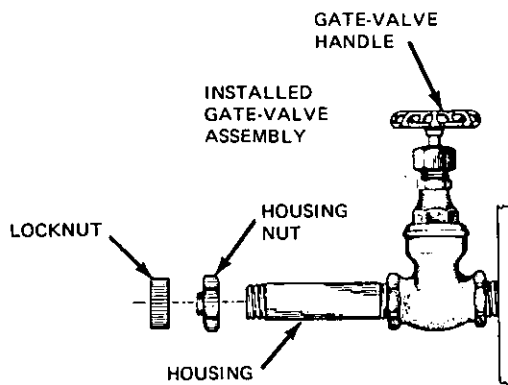

Figure 15.
1. Disassemble the locknut and the housing nut from the installed gate-valve assembly (see Figure 15).